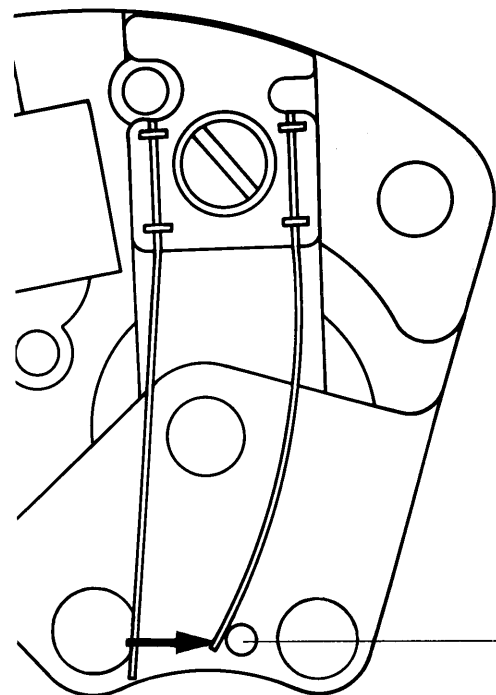

Fig. 7
- 8.2. Place the arm of the click friction spring behind the mounting pin, as shown in fig. 7.